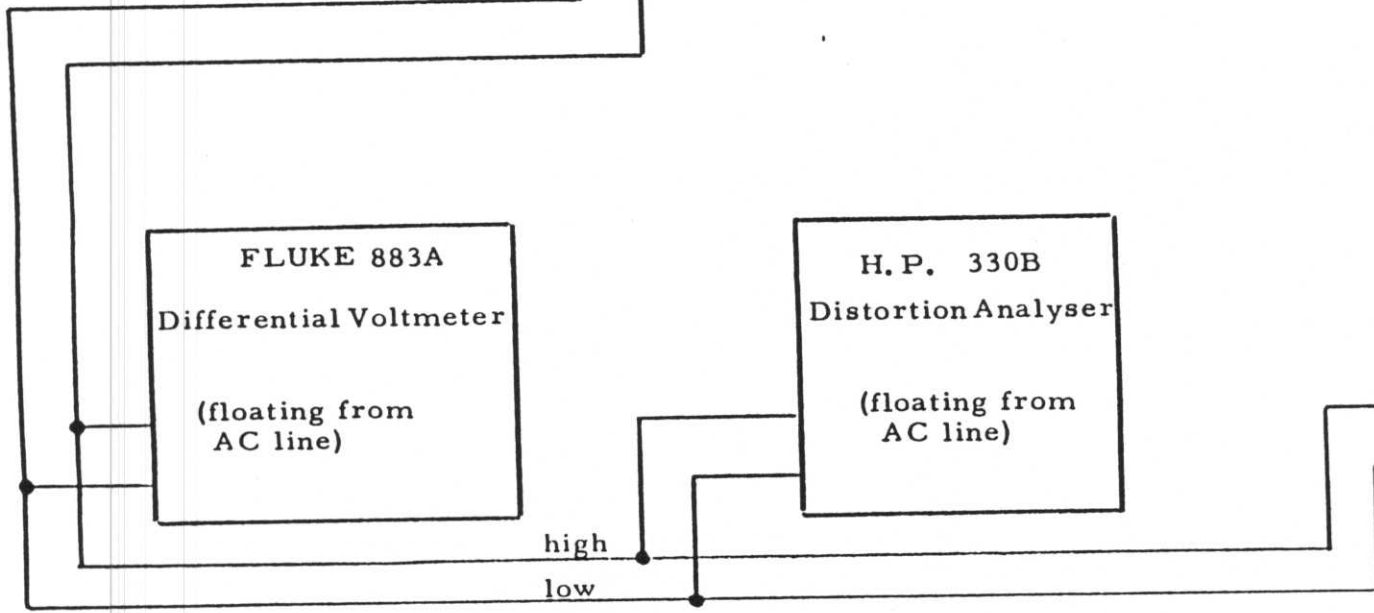

FIGURE 4-3. Test circuit for Model 501TC Power Source
- 4.4.1 Connect the Model 501TC Power Source as shown in Figure 4-3. Select the 135 volt range with the straps on TB2 and adjust the output voltage of the power source to 105 volts rms (78 per cent of rated output voltage) at 400Hz. Close switch S2 (22.1 ohm load) and readjust the output voltage slightly, if required, in order to maintain a 105 volt output. The power source should deliver a clean sine wave output with less than 0.30 per cent distortion. Vary the frequency from 45Hz to 5KHz and check that the distortion does not exceed 0.50 per cent over the AC input line voltage range of 105 to 125 volts while maintaining the output voltage at 105 volts rms. Adjust potentiometer A1R40 so that no clipping or excessive distortion occurs on the positive peak of the output waveform under worst case conditions outlined above. Adjust potentiometer A1R43 so that no clipping or excessive distortion occurs on the negative peak of the output wave form under worst case conditions outlined above. These two adjustments may interact somewhat, so care should be taken not to move one adjustment excessively without checking the effect on the other adjustment.
4.5.1 Connect the Model 501TC Power Source as shown in Figure 4-3. Select the 135 volt range with the straps on TB2. Adjust the variac to provide a 115 VAC line input and allow the power source to warm up for a few minutes. Set the oscillator output to 400Hz and adjust the output of the amplifier with the GAIN control to provide 135 volts rms (100% of rated output). Close switch S1 so that the 36.4 ohm load is across the output of the power source.
4.6.1 Connect the Model 501TC Power Source as shown in Figure 4-3. Select the 135 volt range with the straps on TB2. Set the oscillator frequency to 400 Hz. Close switch S1 (36.4 ohm load) and adjust the output of the power amplifier to 135 volts rms (100 per cent of rated output voltage) at 400 Hz.
- 4.7.1 Connect the Model 501TC Power Source as shown in Figure 4-3. Check that the load is connected across TB2-3 and TB2-6 at the rear of the power source. The output voltage may be monitored either at the rear or the front of the power source. If it is monitored at the rear of the power source, care should be taken to use four-wire sensing. Adjust the output voltage of the Model 501TC Power Source to 105V rms output (78 per cent of rated output voltage) at 400 Hz.
- 4.8.1 Connect the Model 501TC Power Source as shown in Figure 4-3. Adjust the AC input line voltage to 115 volts rms. Adjust the output of the power source to provide 115 volts rms output (85.3 per cent of rated output voltage) at 400 Hz. Connect a 26.4 ohm (500 VA) load to the output terminals at the rear of the power source and check that the regulation control has been set to provide a zero output impedance.
- 4.9.1 Connect the Model 501TC Power Source as shown in Figure 4-3. Adjust the input AC line voltage to 115 volts rms. Adjust the output of the power source to provide 135 volts output (100 per cent of rated output voltage) at 400 Hz.
- 4.10.1 Connect the Model 501TC Power Source as shown in Figure 4-3. Adjust the line voltage to 115 volts rms. Adjust the output of the power source to provide 105 volts rms (78% of rated output voltage) at 400Hz.
- 4.11.1 Connect the Model 501TC Power Source as shown in Figure 4-3. Select the load circuit to correspond with the required output voltage range. Figure 4-4 illustrates the load circuit and gives load parameter values for 500 VA 0.7 power factor at 400Hz with 78 per cent of rated output voltage from the power source. This represent the worst case inductive load for maximum power dissipation inside the power source.
- 4.12.1 Connect the Model 501TC Power Source as shown in Figure 4-3. Select the load circuit to correspond with the required output voltage range. Figure 4-5 illustrates the load circuit and gives load parameter values for 500 VA 0.7 power factor operation at 400Hz with 78 per cent of rated output voltage from the power source. This represents the worst case capacitive load for maximum power dissipation inside the power source.